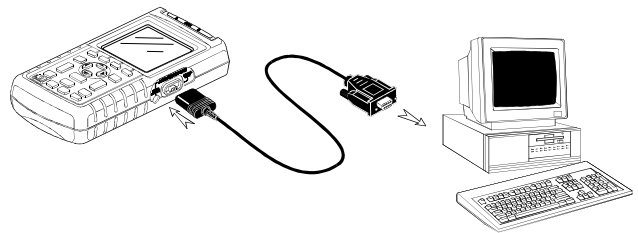

Figure 1-21. Connecting a Computer
- Use the Optically Isolated RS-232 Adapter/Cable (PM9080) to connect a computer to the OPTICAL PORT of the test tool. See Figure 1-21.